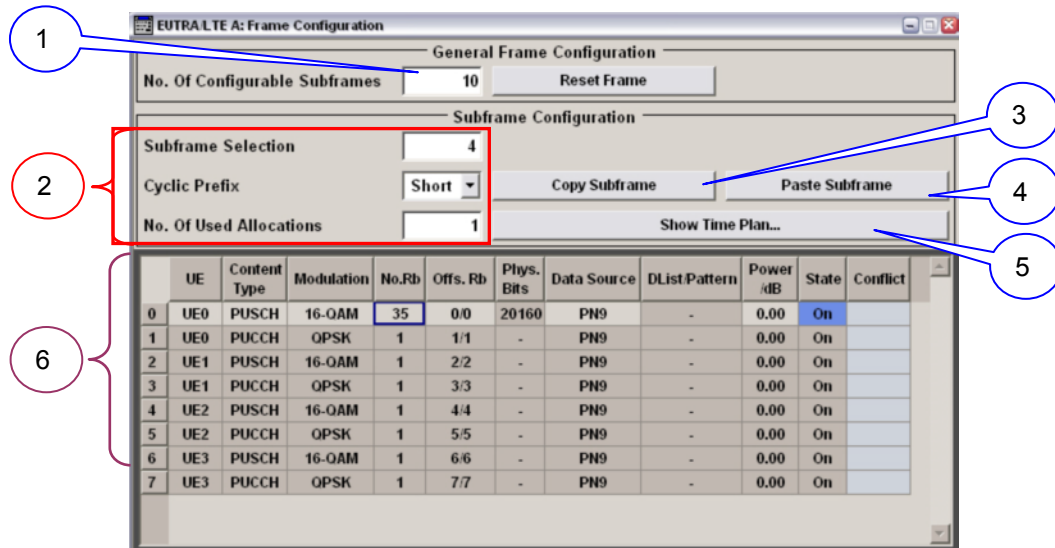

Figure 5-4 SMU EUTRA/LTE UL settings – Frame Configuration
- ⑦. Sub-menu for UL (resp. DL) frame configuration (Figure 5-4)